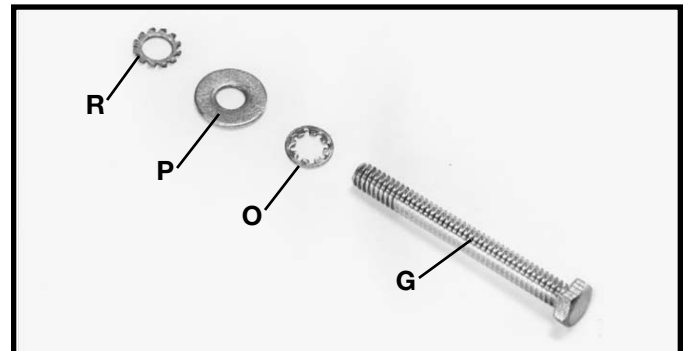

Fig. 7
5. Locate the 2-1/4" long hex head screw (G) Fig. 7, and assemble the internal tooth lockwasher (O), flat washer (P) and external tooth lockwasher (R) onto screw (G).